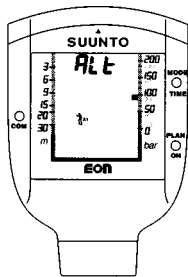

Fig. 4.11 ALTITUDE/PERSONAL ADJUSTMENT SETTING, step 1
1. Activate the altitude/personal adjustment setting mode by connecting the TIME/MODE and COM contacts continuously. Release your fingers immediately when Alt appears on the display. Within a couple of seconds the present altitude/personal adjustment setting is shown (Fig. 4.11).